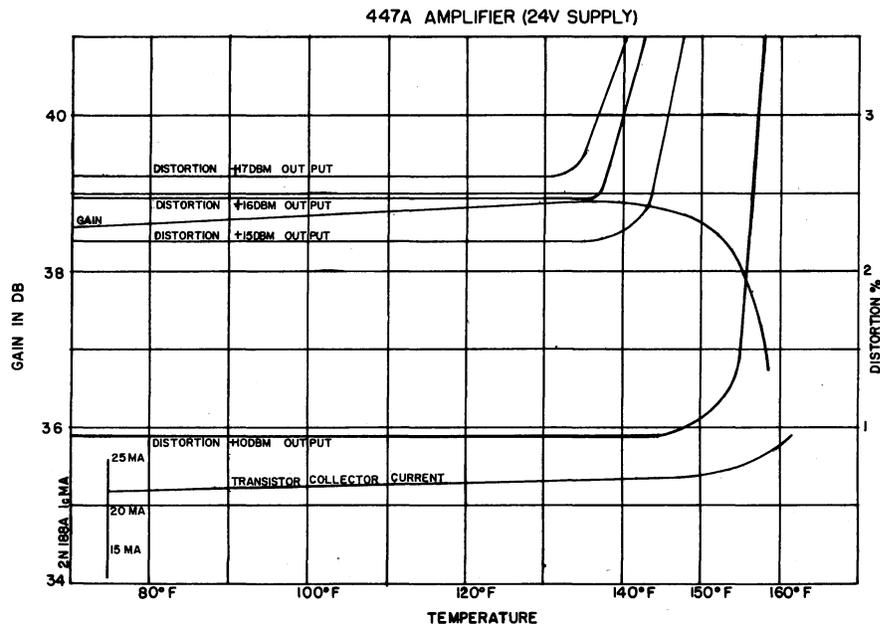
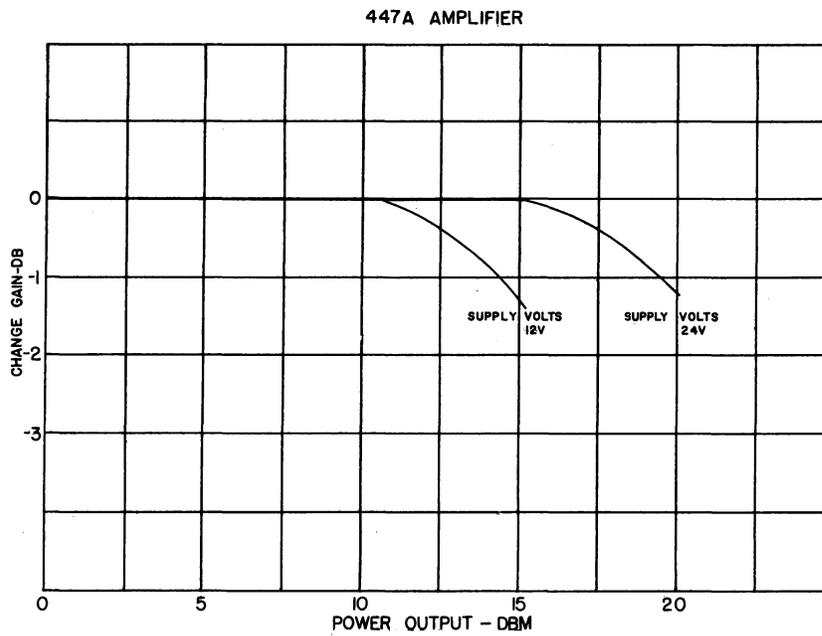

FIG. 5
FIG. 6
3.03 Gain characteristics, distortion characteristics, and the output transistor collector current characteristics over the temperature range of 80°F to 160°F are shown in Figure 5. At elevated temperatures the power rating of the transistor decreases appreciably; and, while the data of Figure 5 was obtained under 24 volt operation, it is necessary to decrease the supply to 12 volts for continuous operation of the unit at high temperature. Change of gain vs. output power characteristic at the normal and reduced voltages is shown in Figure 6. Total current consumption at 12 volts is 12 ma.